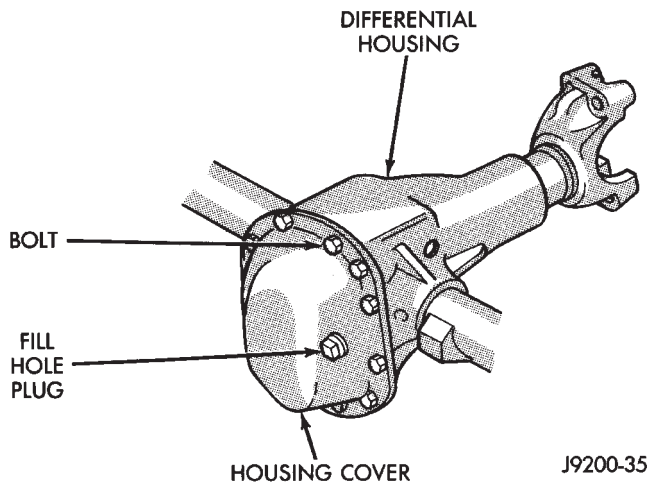

Fig. 9 Differential Housing Cover Installed
- (8) Install the cover on the differential housing with the attaching bolts (Fig. 9). Tighten the cover bolts with 47 N·m (35 ft. lbs.) torque.
- (9) Remove the fill-hole plug and add the replacement gear lubricant to the differential housing. Refer to Specifications above.
- (10) Install the fill-hole plug. Tighten the plug with 34 N·m (25 ft. lbs.) torque.